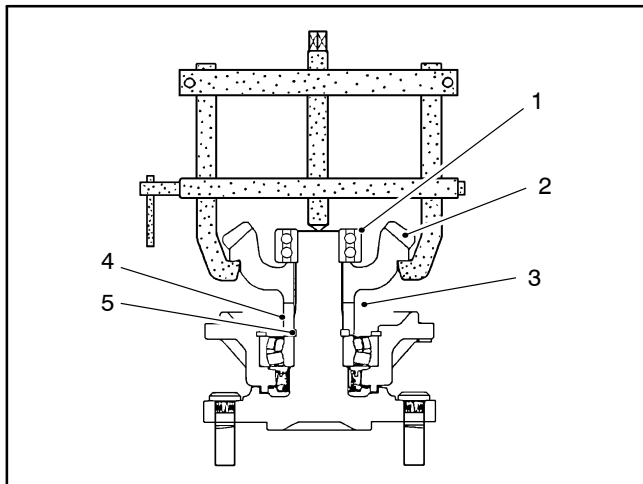

Figure 31
2. Use a bearing puller to remove the bearing and bevel gear as shown (Fig. 31).